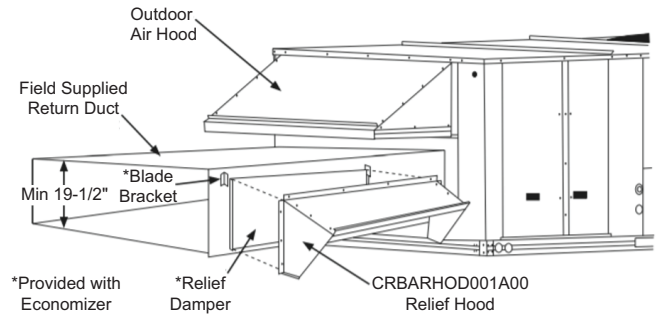

Fig. 24 — Installing CRBARHOD001A00 Over Relief Damper
4. Using the blade brackets, install the relief damper onto the side of the return duct. (See Fig. 24.) The 2 brackets and relief damper are provided with the economizer.
Caulk the back side of the mating flanges to ensure a water-tight seal. Install the CRBARHOD001A00 over the relief damper and screw to the return duct, as illustrated in Fig. 24 and 26.